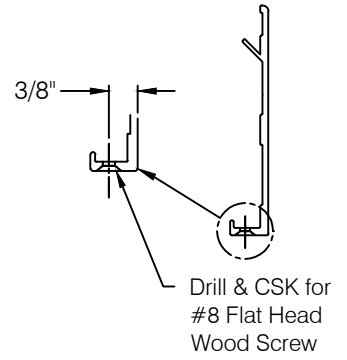

fig 3a
- Step 5:** Drill and countersink accessory base mounting holes along bottom edge of aluminum retainer for #8 flat head wood screws provided. Place an accessory alignment mark 4" in from end of aluminum, see fig 3a and fig 3b.
- Step 8:** Drill and countersink wood bumper mounting holes along bottom edge of aluminum retainer for #8 flat head wood screws provided, see fig 3a and fig 6.